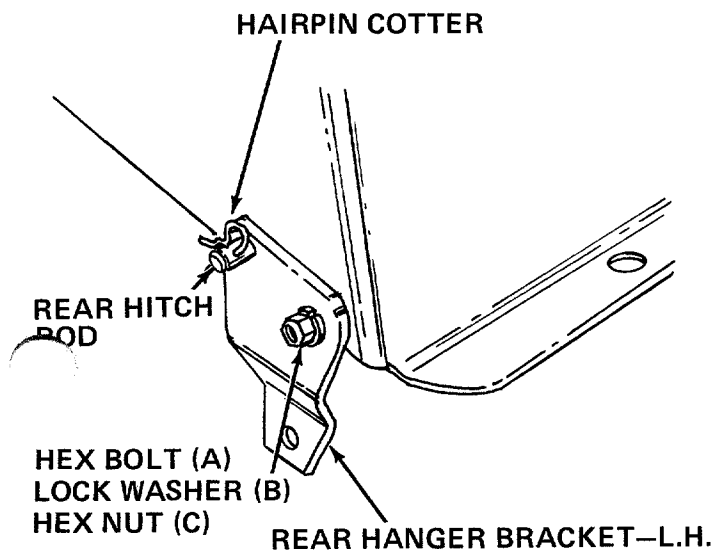

FIGURE 7
- Remove the hairpin cotters on tractor rear hitch rod. See figure 7.
- Secure rear hanger brackets to tractor frame with hex bolts (A), lock washers (B) and hex nuts (C). See figure 7. A 9/16" wrench and adjustable wrench are required.